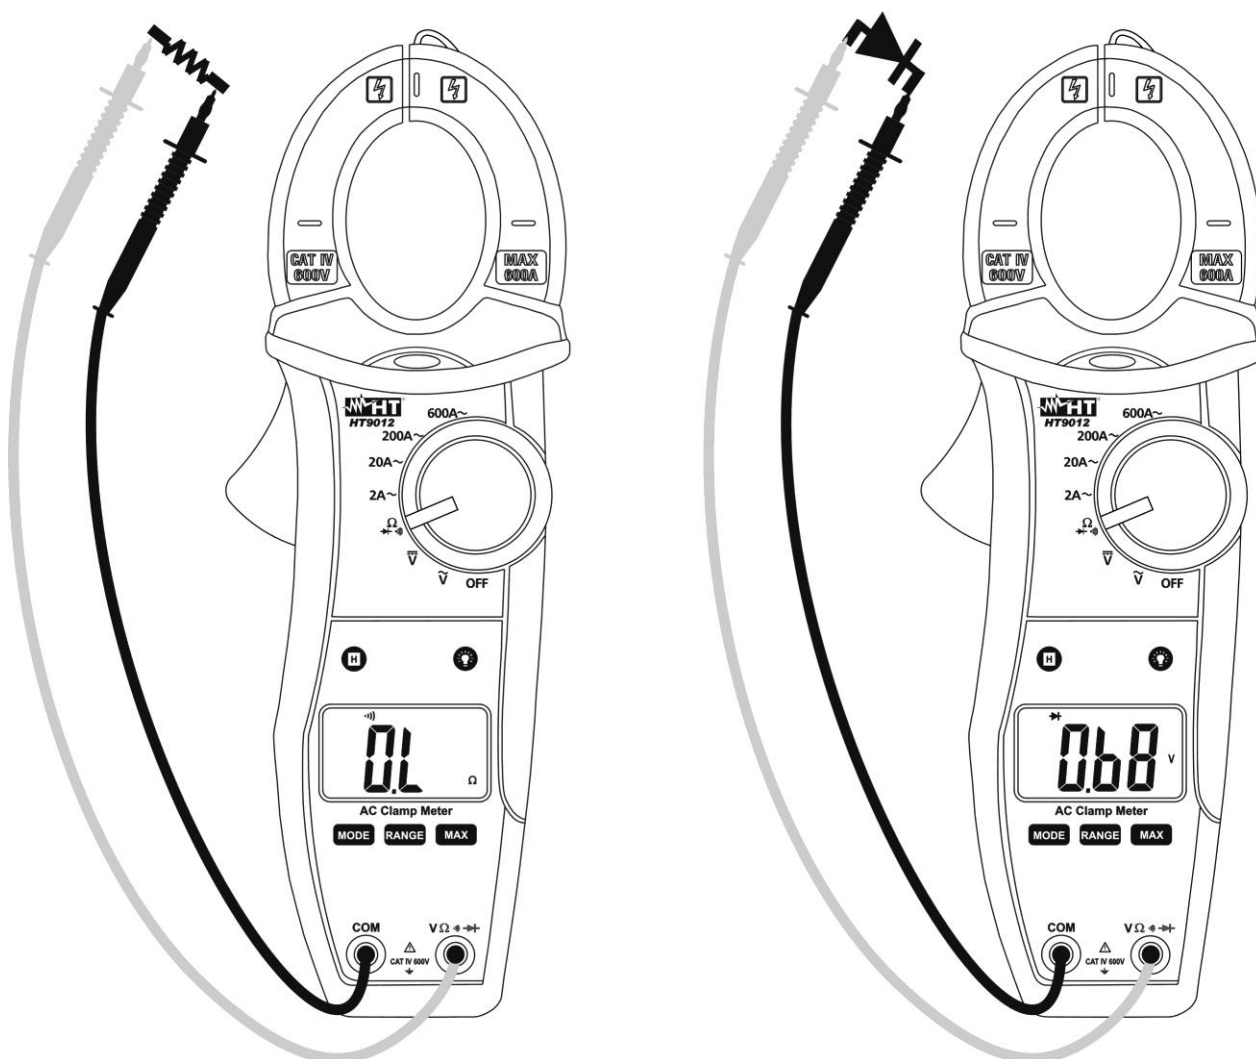

Fig. 7: Taking continuity test and diode test
3. Insert the red test lead plug into $V \Omega \rightarrow \text{diode symbol}$ jack and the black test lead plug into **COM** jack and perform continuity test on the object on test (see Fig. 7 – left side). Buzzer emits sound if the measured resistance value is less about 100Ω
5. Connect the red test leads to the anode of diode on test and the black test lead on the cathode ones (see Fig. 7 – right side)